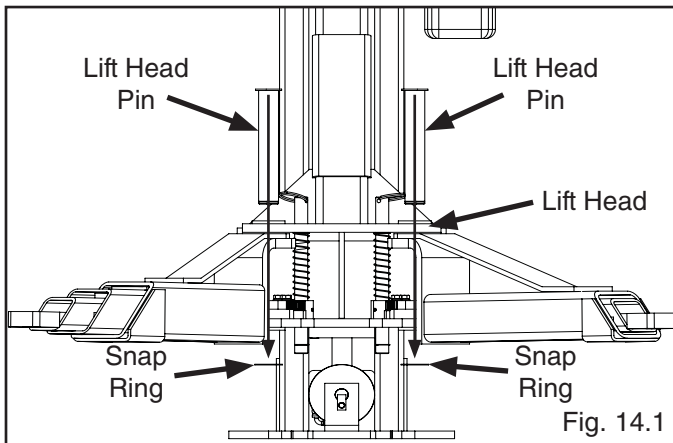

Fig. 14.1
2. Install the lift head pins into the lift head and through the holes in the arm assembly. (See Fig. 14.1)